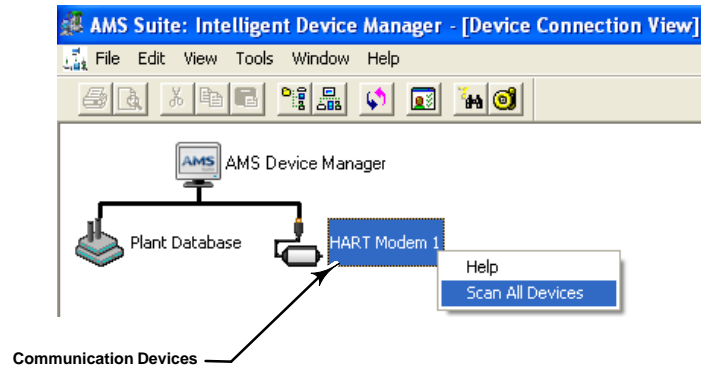

Figure 4-2. AMS Device Manager Device Connection View
- Step 3:** The AMS Explorer or Device Connection View window (figure 4-2) displays.